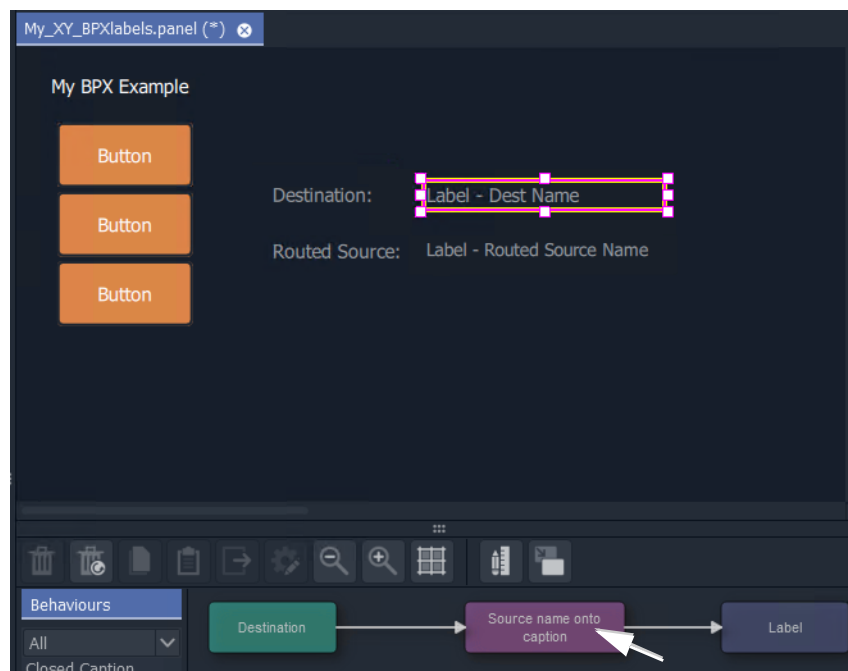

Fig. 12-57: Select a Label
- 8 Select the Label to see its Behaviours and Bindings. See Figure 12-57.